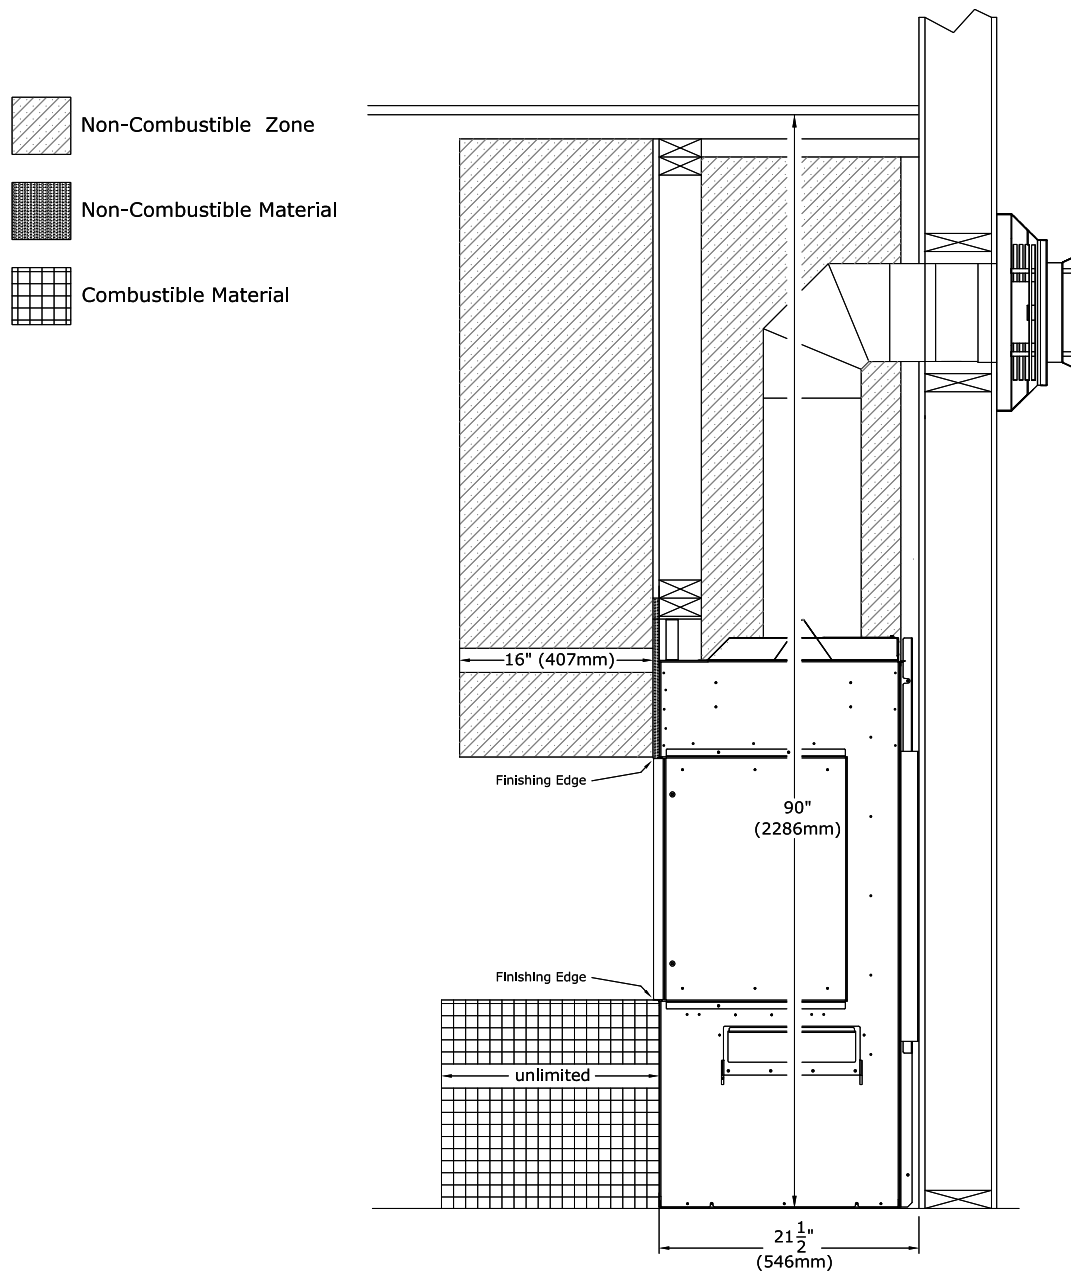

Figure 4.32 - Front Chamber Projection
- **Non-combustible Mantel Projections:** A maximum of a 16" (406mm) non-combustible mantel projection is allowed to start at 0" (0mm) from the top fireplace finishing edge. See Figure 4.32.
- **Non-combustible Chamber Projection:** A maximum of a 16" (406mm) non-combustible projection can be installed flush at the side and top finishing edge of the fireplace. See Figure 4.32.
Figure 4.32 shows a non-combustible 16" front chamber projection with a vented cavity. The heat release opening of the fireplace chamber must maintain their clearances for the option you have choose throughout the entire fireplace chamber and projection. The non-combustible 16" projection applies to a side projection.